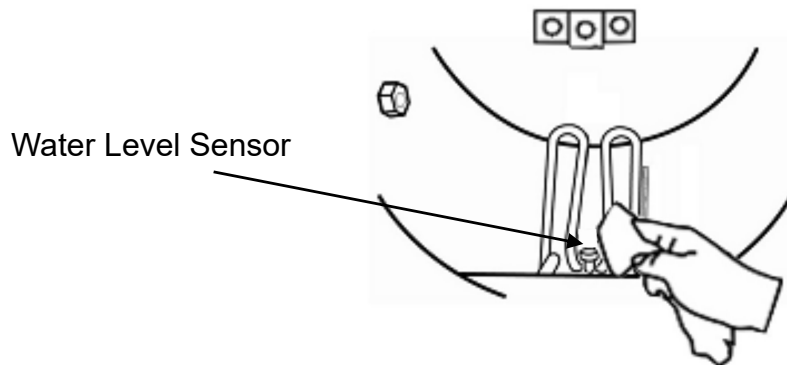

Figure 30
- Use the non-corrosive cleaner and stiff bristled brush or sponge to clean the water level sensor at the rear of the chamber as Figure 30.